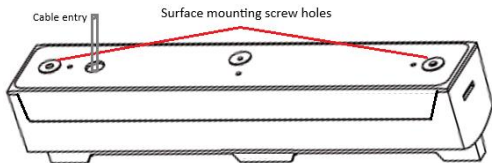

Fig. 2
- Feed cable(s) through back plate and using wall plugs and screws supplied fit onto ceiling (see Fig.2)